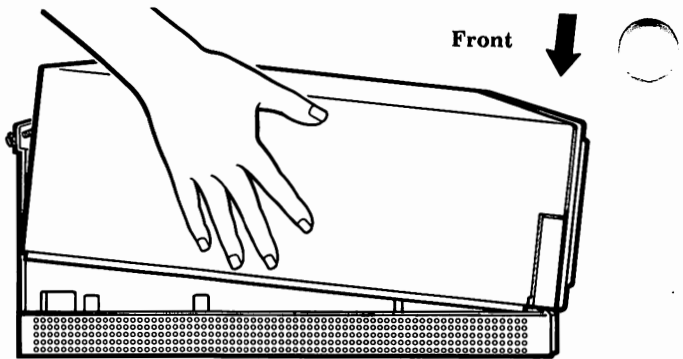

Figure 2-8. Replacing the top cover.
- Lower the front of the cover into place. Press in on the sides of the cover as you lower them into place, making sure the cover edges fit inside the processor frame. See Fig. 2-8.